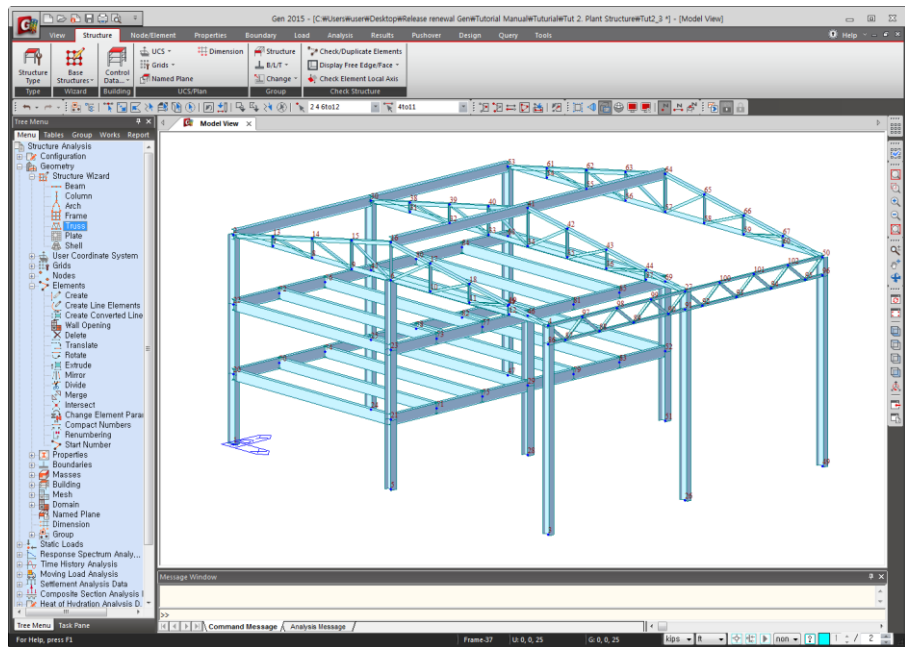

Figure 2.13 Generation of Longitudinal truss
1. Click  *Rotate Dynamic* in the Icon Menu and rotate the model as shown in Fig.2.13.